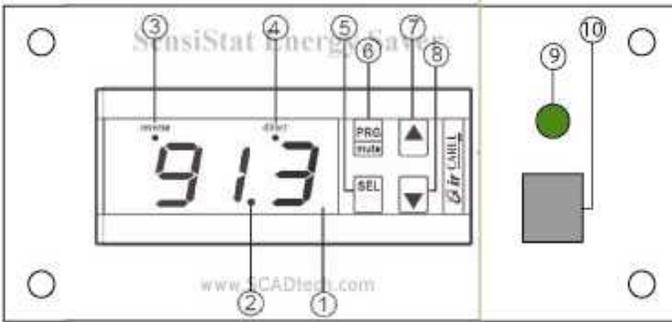

Figure 2: Front Panel of SensiStat™ Energy Saver
You control the functions of the daughter board via the function button (# 10 on figure 2) and receive feedback from the daughter board via the function LED (# 9 on figure 2).
You may change the settings of the thermostat, including the holding plate freezing temperature, differentials, and display units (Fahrenheit or Centigrade) using the buttons on the thermostat (#5 through #8 on figure 2).
Power-on self-test: Each time the SensiStat™ refrigeration controller receives power, it conducts a self-test and determines the voltage of your batteries. The indicator LED (“9” in figure 2) will display a string of 8 rapid flashes, pause, flash the revision code of the firmware (such as one long, and three short flashes for revision 1.3), pause, and then display another string of 8 rapid flashes. At this point you are assured the system is working correctly.
Normal Thermostat Mode: When battery voltages are below charging voltage, the SensiStat™ will operate as a very precise thermostat. When demanding the compressor to run, the “direct” LED (#4 in figure 2) will flash slowly. By default, the temperature of the ice box is displayed. Pressing the down key (#8 in figure 2) will briefly display the holding plate temperature. (see “Customization” below if you prefer the holding plate temperature to be displayed by default).
The SensiStat™ indicator LED flashes (1/2 second on - 1/2 second off) when “free power” first becomes available. After 30 seconds, the LED will light continuously and the differential will be overridden. When the SensiStat™ is asking the compressor to run, a small LED under the word “Direct” and indicated by the number 4 on Figure 2 will flash.
To start the manual override mode, briefly press the function button (#10 on figure 2). The function LED will flash once per second during manual override mode. The “direct” LED (#4 on figure 2) will flash indicating the thermostat is asking your refrigeration compressor to run. The “direct” LED will continue to flash until the holding plate is re-frozen or 60 minutes have elapsed.
To cease the manual override mode, briefly press the function button (#10 of figure 2). The function LED will cease flashing once per second. The SensiStat™ will return to normal operation. If “Free Power” is available, the SensiStat™ will respond accordingly.
To enter disabled mode, press and hold the function button (#10 in figure 2) until one string of rapid flashes is displayed, then release the function button. The SensiStat™ will enter disabled mode. The function LED will flash briefly once every 15 seconds or so. This brief occasional flashing is just a reminder to you that the SensiStat™ is in disabled mode.
Your SensiStat™ by default displays the temperature sensed by the ice box temperature sensor. By pressing the Down key (#8 in figure 2) you may momentarily view the holding plate sensor reading.
1. To enter the set point programming mode, press and hold the SEL key (#5 in figure 2) for 5 seconds.
4. If you wish to change this value, press either the Up or Down keys (#7 or #8 in figure 2) until you reach the new desired value.
8. If you wish to change this value, press either the Up or Down keys (#7 or #8 in figure 2) until you reach the new desired value.
1. To enter the differential programming mode, press and hold the PRG key (#6 in figure 2) for 5 seconds.
6. To change the differential value, press either the UP or Down keys (#7 or #8 in figure 2) until you reach the desired value.
11. To change the override differential value, press either the UP or Down keys (#7 or #8 in figure 2) until you reach the desired value.
1. Press and hold the function button (#10 on figure 2).
3. The function LED (#9 on figure 2) will begin to flash out voltage setting options in a Morse code-like fashion. The selections will be